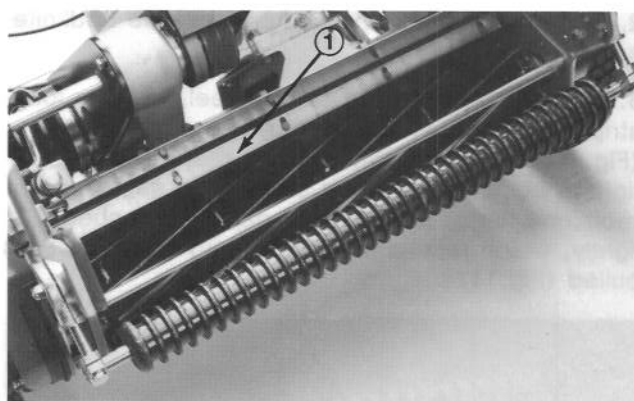

Figure 17
1. Loosen screws securing top bar (Fig. 17) to cutting unit. Insert .060 inch feeler gauge between top of reel and bar and tighten screws. Assure bar and reel are equal distance apart across complete reel.